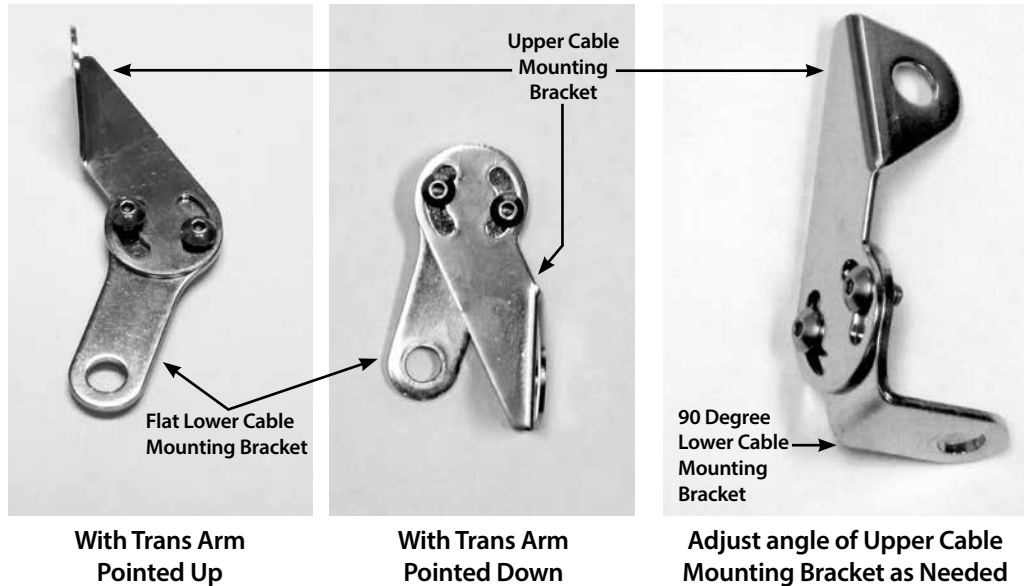
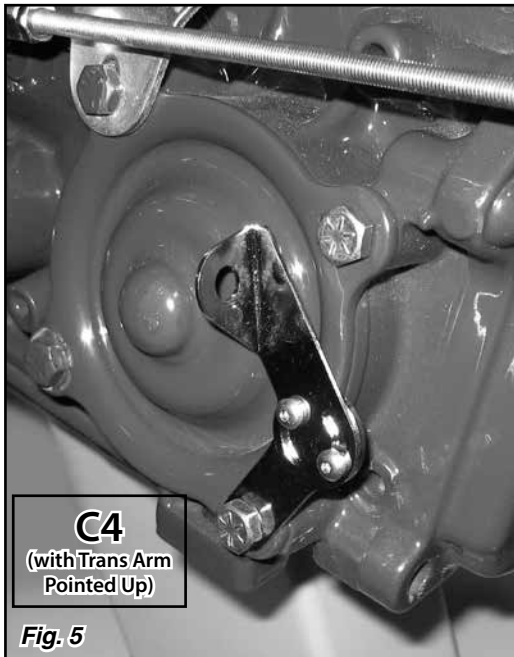
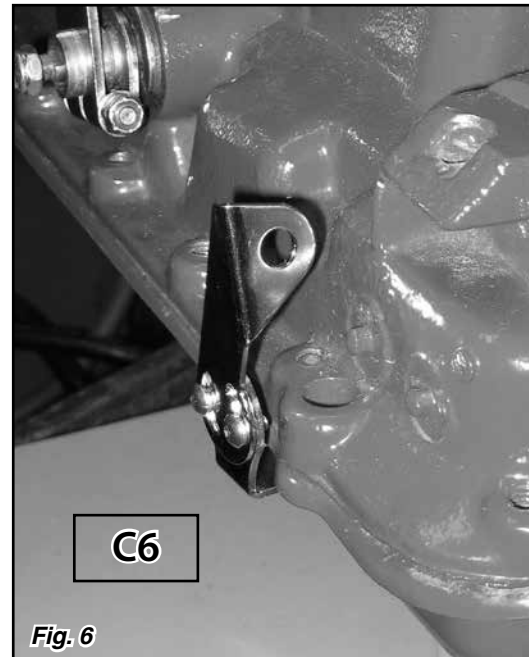

Fig. 4
Fig. 5
Fig. 6
**C4:** The orientation of the upper part of the adjustable cable mounting bracket will depend on the orientation of the trans arm on your selector shaft. See Fig. 4. Attach the flat lower cable bracket to the upper cable bracket with two #8-32 x 5/16" button head screws and lock washers using a 5/32" Allen wrench, but do not tighten the screws fully yet. Install the adjustable cable mounting bracket onto the rear bottom bolt on the cover to the rear of the selector shaft. Fig. 5
**C6:** Attach the 90 degree lower cable bracket to the upper cable bracket using two #8-32 x 5/16" button head screws and lock washers using a 5/32" Allen wrench, but do not tighten the screws fully yet. Fig. 4 Install the adjustable cable mounting bracket onto the last pan bolt on the left side of the transmission, using the 5/16"-18 x 1-1/4" bolt, lock washer, flat washer, and spacer. Fig. 6 **NOTE:** If you have an aluminum transmission pan, you may not need to use the spacer.